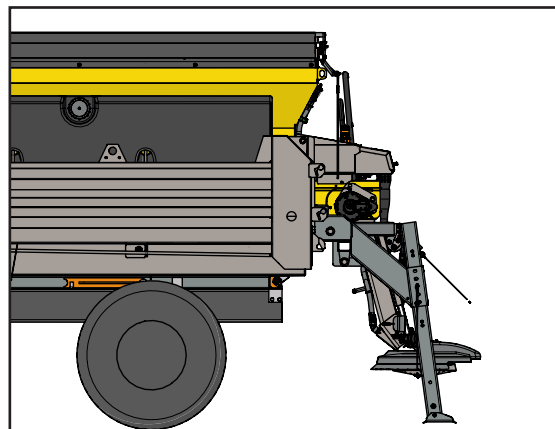

Figure 7
- Figure 7 - Lower the dump body completely. The rear legs should be off the ground.